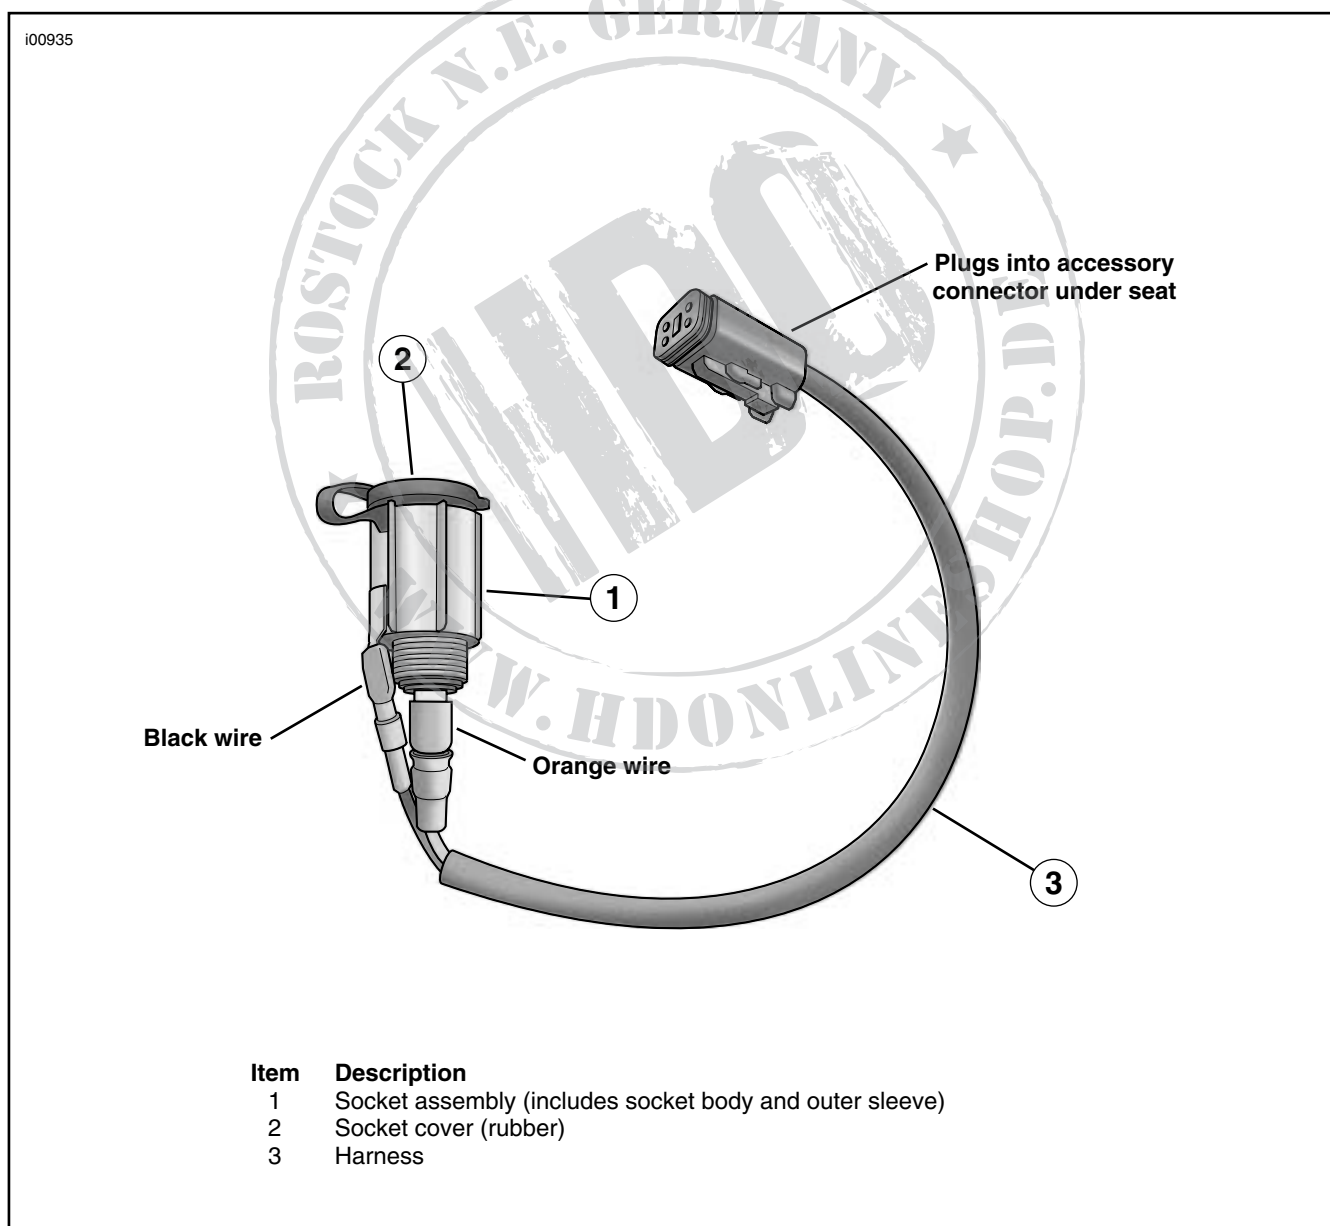

Figure 2
5. See Figure 2. Unscrew outer sleeve of socket assembly (1) from socket body. Place the socket body into the cover hole and secure the socket in place by screwing
- See Figure 2. Connect the two spade terminals on the harness to the spades on the socket. Make sure the black wire (longer wire) is connected to the outer spade on the outer cover, and the orange wire (shorter wire) is connected to the inner spade in the center of the socket assembly.